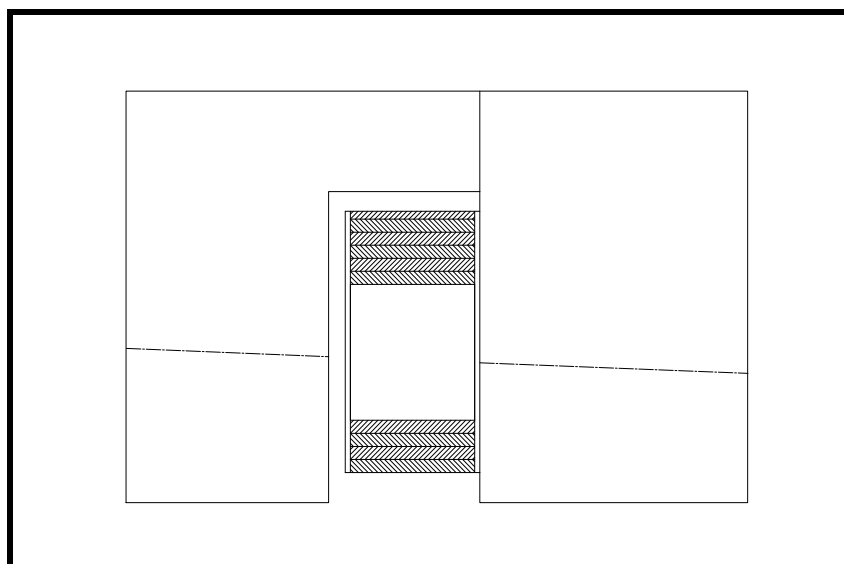

Figure 1
- ☐ Locate and mark the wing rib chord line on the forward face of the spar at Sta. 14. This point should be relative to the chord line on the aft face of the spar. The best way to do this is shown in Figure 1. Use a piece of plywood. Draw the aft face of the wing spar as a vertical line. Draw the chord line at the proper angle for the wing station. Cut out an area so that you can fit this over the spar. Locate the chord line on the aft face of the spar and align the template with it. Use a straightedge against the chord line to locate the chord line on the forward face of the spar. Remember, at each station the chord line is at a different angle.